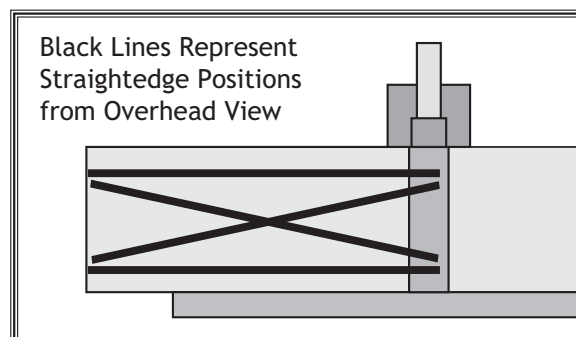

Figure 35. Straightedge positions for checking outfeed table parallelism.
3. Place straightedge in one of the positions shown in **Figure 35**.